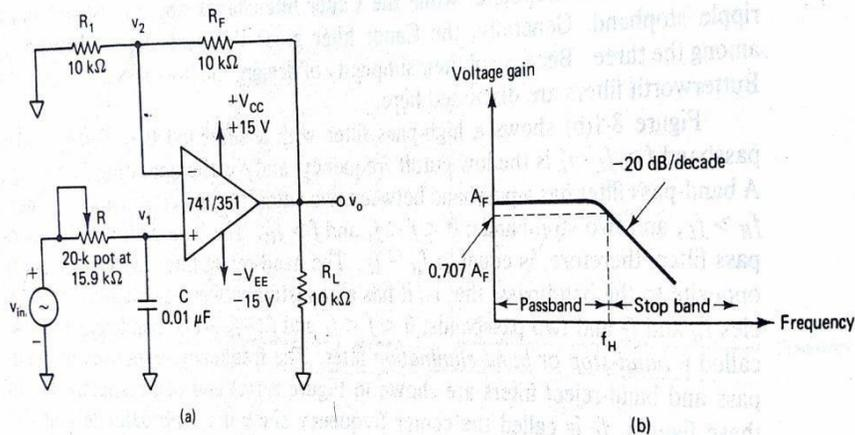

Figure 8-2 First-order low-pass Butterworth filter. (a) Circuit. (b) Frequency response.
- Figure 8-2 shows a first order low pass Butter worth filter that uses an RC network for filtering. Note that the op-amp is used in the non-inverting configuration, hence it does not load down the RC network. Resistors  $R_1$  and  $R_f$  determine the gain of the filter.
- At  $f_H$ , the gain is  $0.707 A_f$ , and after  $f_H$  it decreases at a constant rate with as increase in frequency [see fig 8-2 b]